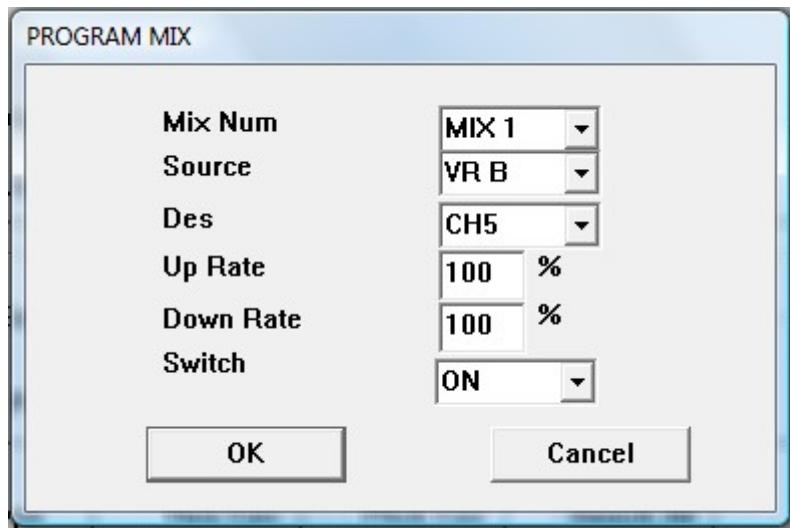

Fig 17
Lets move on to adjusting the tail. Most of the tail setup is done in Rate mode. However for the Gyro to properly initialize, we need to start the model up in HH mode. We need to return to the configuration program to assign the VR(B) dial to channel 5. This is done using the MIX settings (Fig. 17).